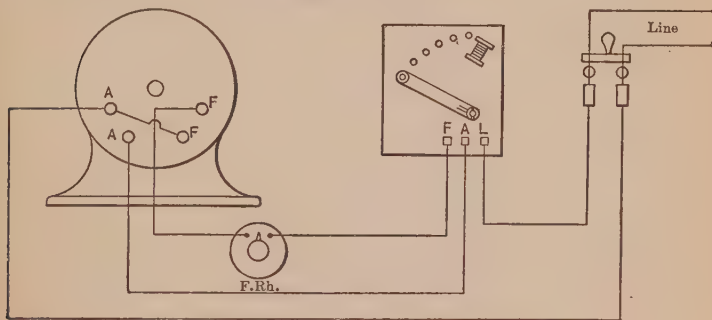

FIG. 163.
**Prob. 47.** Is the shunt motor of Fig. 163 connected correctly? If not, make the necessary changes.
**Prob. 48.** Make the necessary changes in your diagram of connections for the motor of Fig. 163, to reverse the direction of rotation.